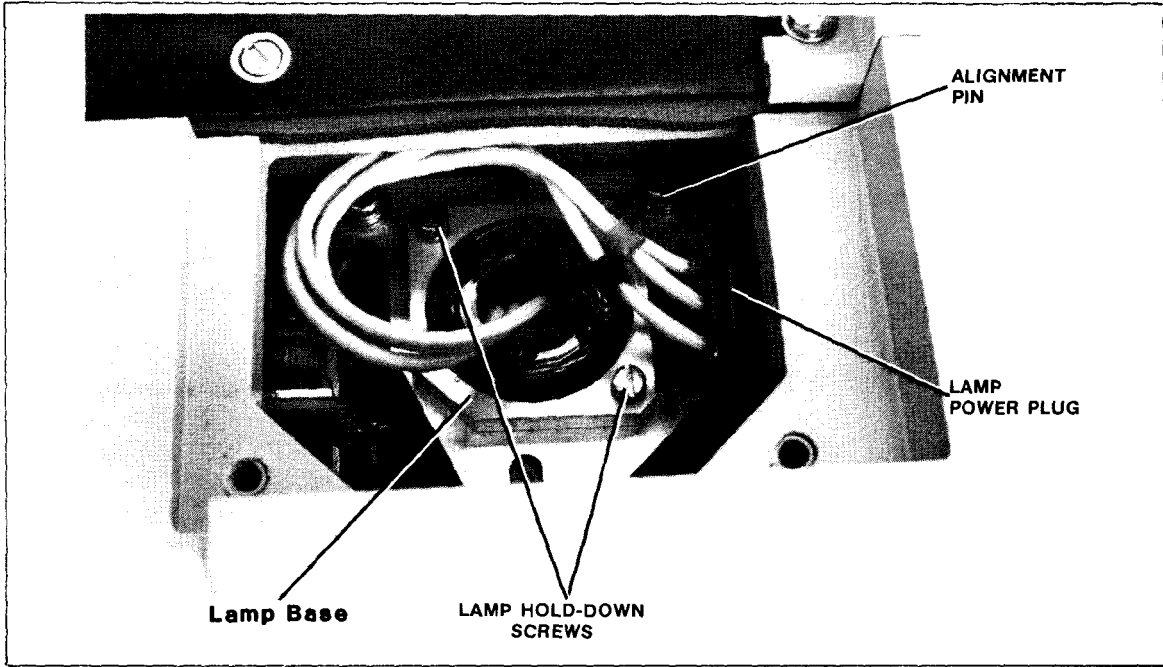

Figure 9-2. Lamp Location
5. Disconnect the lamp power plug (see Figure 9-2).